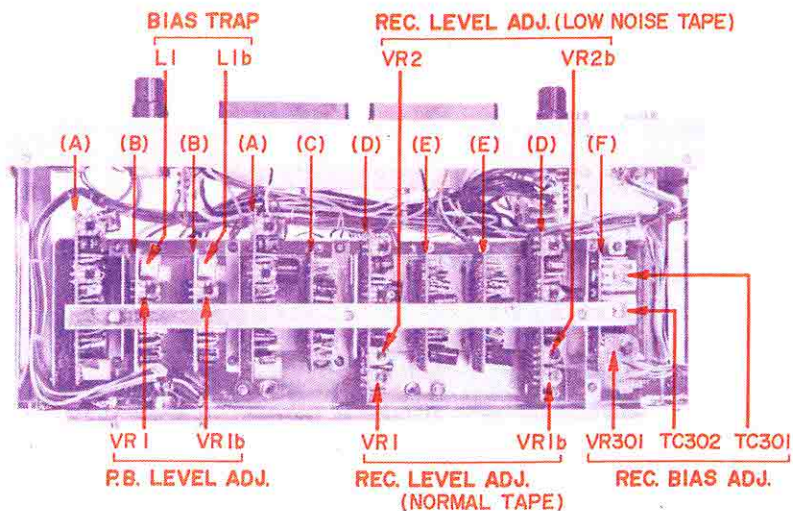

Fig. 15
- 4) Adjust P.B. Amp. P.C. Board Playback level adjustment semi-fixed resistor VR1 50 k Ω (left channel) and VR1b 50 k Ω (right channel) shown in Fig. 15 so that the V.T.V.M. indication is 0 dB (0.775V).
- 2) Adjust P.B. Amp. P.C. Board bias trap coils L1 10 mH (left channel) and L1b 10 mH (right channel) shown in Fig. 15 so that the V.T.V.M. indication is minimum (less than -50 dB).
- 6) Adjust Rec. Dolby Amp. P.C. Board recording level adjustment semi-fixed resistors VR1 20 k Ω (left channel) and VR1b 20 k Ω (right channel) shown in Fig. 15 to obtain a high sensitivity V.T.V.M. indication of 0 dB (0.775V).
- 8) Adjust Dolby Amp. P.C. Board recording level adjustment semi-fixed resistors VR2 20 k Ω (left channel) and VR2b 20 k Ω (right channel) shown in Fig. 15 to obtain a high sensitivity V.T.V.M. indication of 0 dB (0.775V).
- 3) Under these conditions, adjust OSC. P.C. Board recording bias voltage adjustment trimmer condensers TC301 70P (left channel) and TC302 70P (right channel) shown in Fig. 15 to obtain an equally flat frequency response at 1,000 Hz and 10,000 Hz.
- 4) Depress the 3-3/4 ips (9.5 cm/sec.) Tape Speed Switch and make the same adjustment as outlined above. Adjust OSC. P.C. Board recording bias voltage adjustment semi-fixed resistor VR301 (2 k Ω) shown in Fig. 15 to obtain an equally flat frequency response at 1,000 Hz and 10,000 Hz.